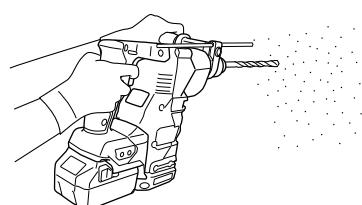

Fig. 22
- (1) Mount the drill bit.
- (2) Pull the trigger switch after applying the drill bit tip to the drilling position. (Fig. 22)
- (3) Pushing the rotary hammer forcibly is not necessary at all. Pushing slightly so that drill dust comes out gradually is just sufficient.
When the drill bit touches construction iron bar, the bit will stop immediately and the rotary hammer will react to revolve. Therefore please grip the side handle and handle tightly as shown in Fig. 22.